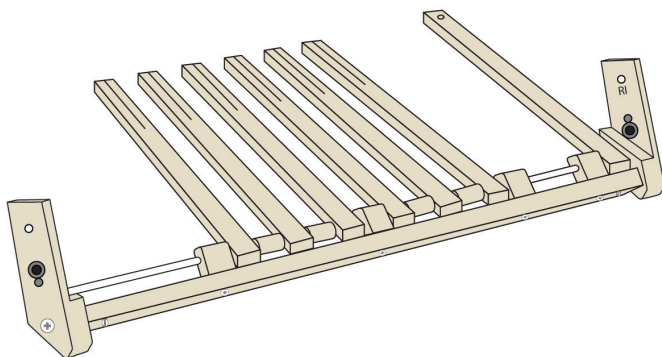

FIGURE 10: INSIDE BLOCKS INSTALLED ON TREADLE ASSEMBLY
17. Repeat steps 15 and 16 on the other end of the treadle assembly, using the LI height extender block. The treadle assembly and inside height extender blocks should now look like Figure 10.